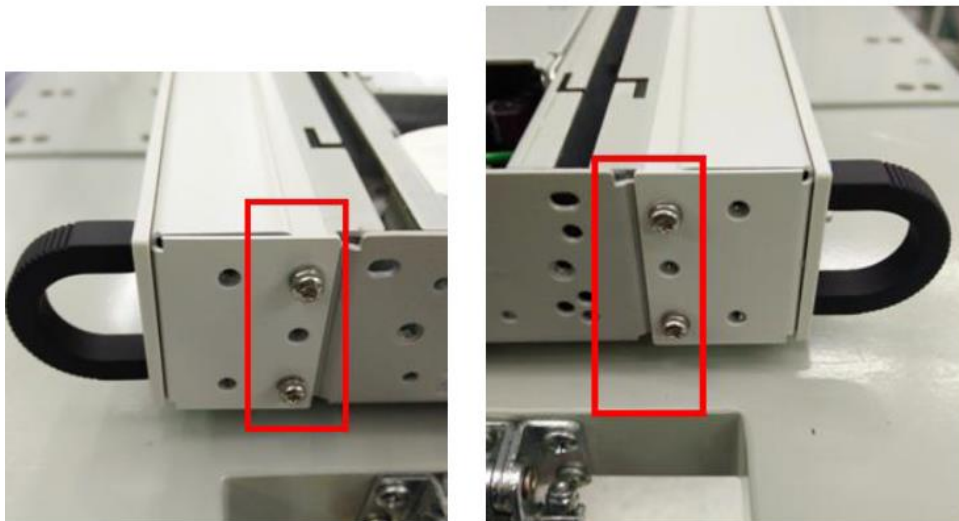

Figure 19
20. Screw 2 screws each side for both side of the front panel as shown in Figure 19.